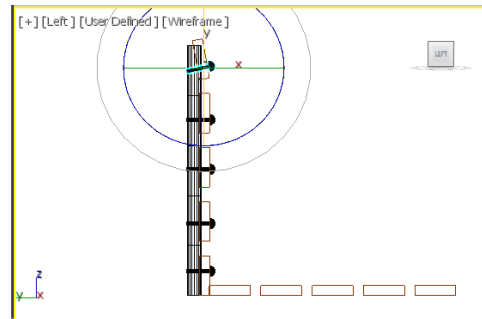

Figure 2-83 Rotating uppermost rivet
5. Select the uppermost rivet and choose the **Select and Rotate** tool. Now, rotate the uppermost rivet by using the outermost ring of the **Select and Rotate** tool in the counterclockwise direction until the value in the **X** spinner in the coordinate display becomes **-15**, refer to Figure 2-83. Next, align it using the **Select and Move** tool.